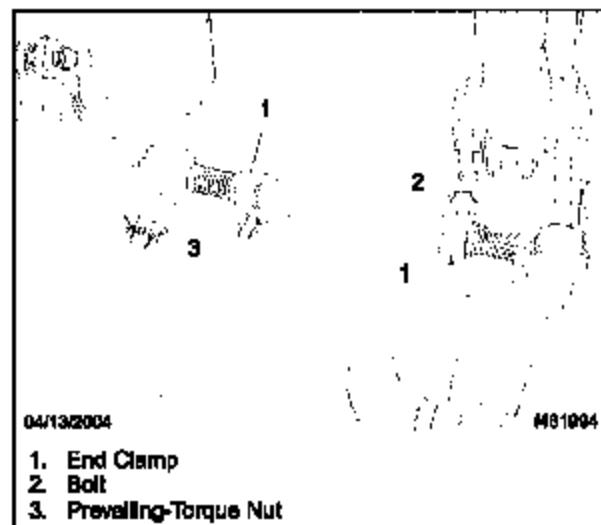

Fig. 1, Drag Link
3. Remove and discard the prevailing-torque nut from the drag link and clamp. See Fig. 1.